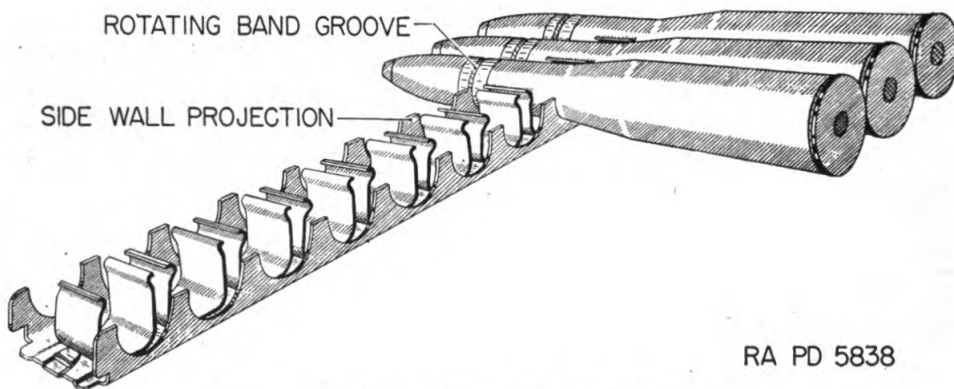

FIGURE 43.—Ammunition clip partially loaded.
**34. To load.**—a. *Loading ammunition clip* (fig. 43).—(1) Place the clip, prongs up, on a flat surface.